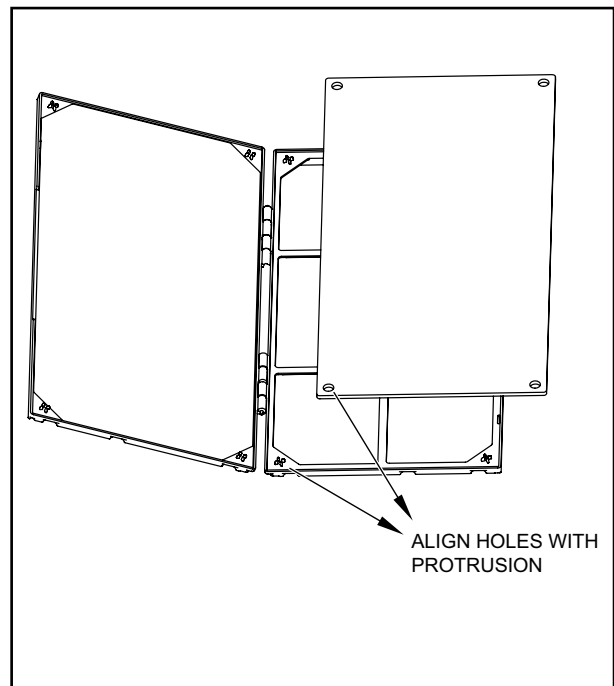

Figure 409
4. Place the new carbon filter on the top of the back filter frame. The carbon filter has been cut to the correct dimension and should fit within the frame as shown in Figure 409.
4. Install filter and close door. See Figures 409 and 410.